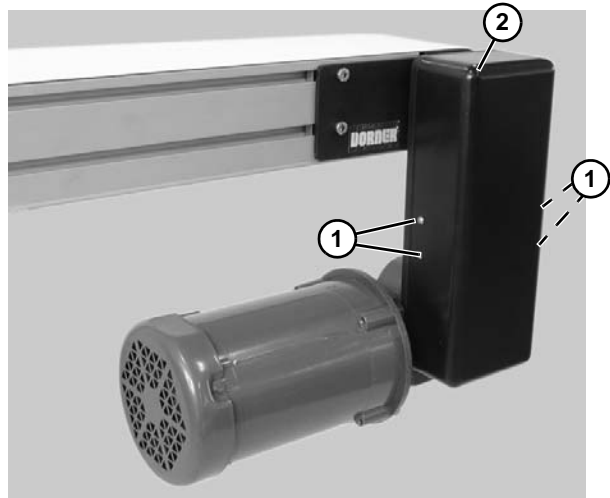

Figure 79
- b. Remove four (4) screws (Figure 79, item 1) and remove cover (Figure 79, item 2).